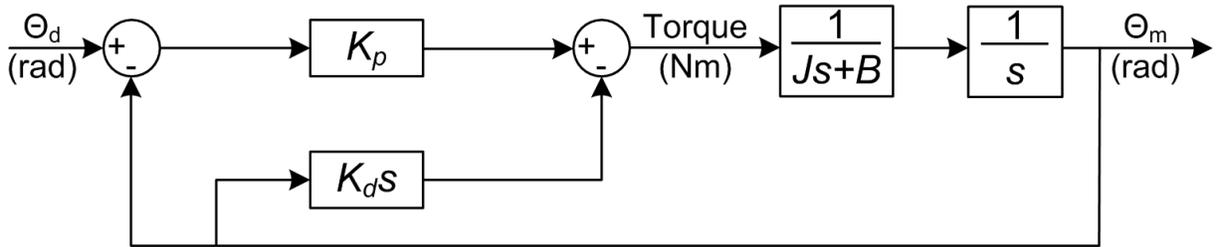

Figure 5.1: Closed-loop PD control block diagram
In this section, you will design a PD controller for each joint such that the response will meet some design specifications. The closed-loop block diagram applicable to each joint is shown in Figure 5.1. K_p and K_d are the proportional and derivative gains respectively. J and B are the joint inertia and friction respectively. θ_d is the desired position of the joint and θ_m is the actual position. This is an approximate model of the joints where many physical effects are ignored to achieve a more simplified model. It should be noted that this particular implementation of PD control applies the derivative gain to the feedback position, as opposed to the conventional approach where the derivative gain is applied to the position error. This approach is often referred to as PV control, or set point gain, and is used in this case to improve performance and better approximate a second-order system.
Derive the closed-loop transfer function, $\frac{\theta_m}{\theta_d}$, for the block diagram in Figure 5.1.
1. In Simulink, create a model that is equivalent to the diagram shown in Figure 5.1 for joint 1. The parameters J and B for joint 1 are given in Table 5.1. Provide a step input with a *Final value* of $\pi/18$ and *Step time*, *Initial value*, and *Sample time* of 0 .